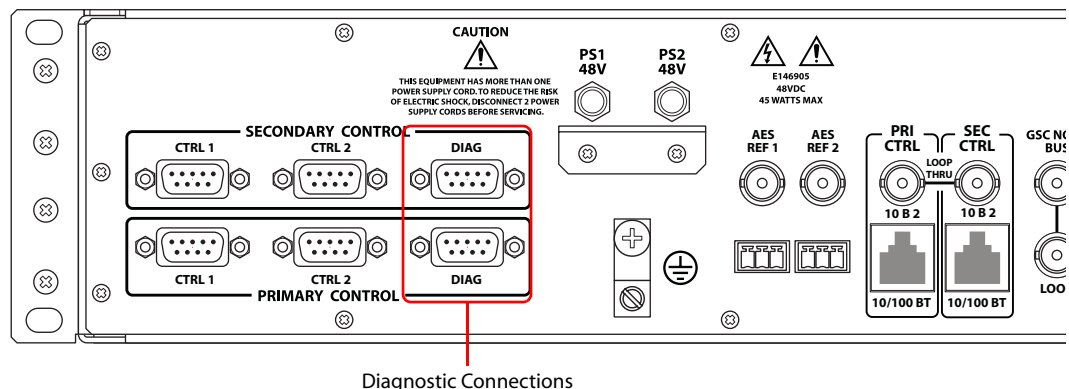

Figure 1-6. Diagnostic Connections (Rear View)
Diagnostic connections connect the EC9535 to the computer (PC) running the UniConfig application. Two diagnostic connections are located on the rear of the EC9535, labeled ‘DIAG’. The ports are divided into two sets: one primary and one secondary, as shown in Figure 1-6 on page 4. The primary control connects to EC9535’s primary control card. The secondary control connects to EC9535’s secondary (optional for redundancy) control card. For instructions, see Making Diagnostic Connections on page 13.